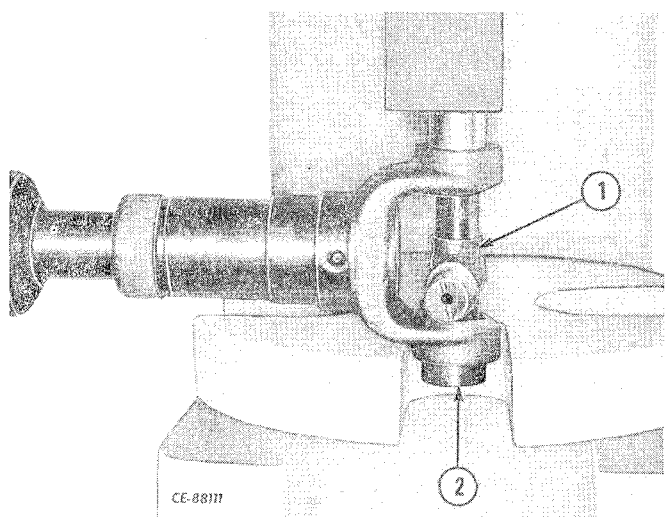

Figure 5-6
Turn drive shaft over and press on spider (1, Fig. 5-6) and remove remaining bearing (2).